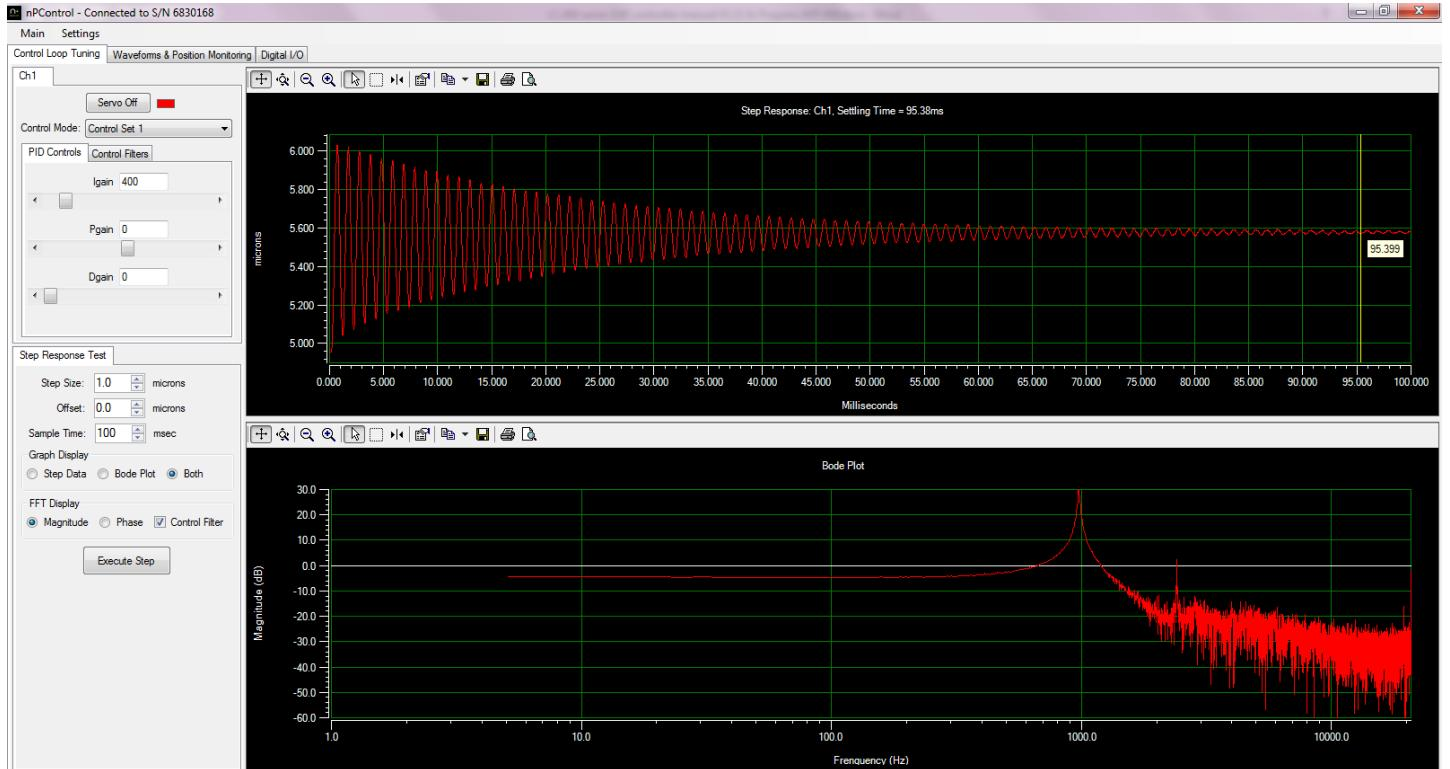

Figure 3-3: Step response of a system with a resonant frequency near 1000 Hz.
- Set the system to open-loop mode (the servo toggle button should display **Servo Off**). Perform a 1um step response to identify the resonant frequency of the system. The resonance peaks are identified in the **Bode Plot**, as shown in Figure 3-3.